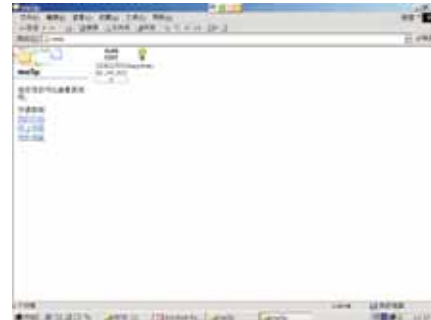

Fig. 5
Step 5 :Copy the hex code to C:\ME5P as shown in Fig. 5 .